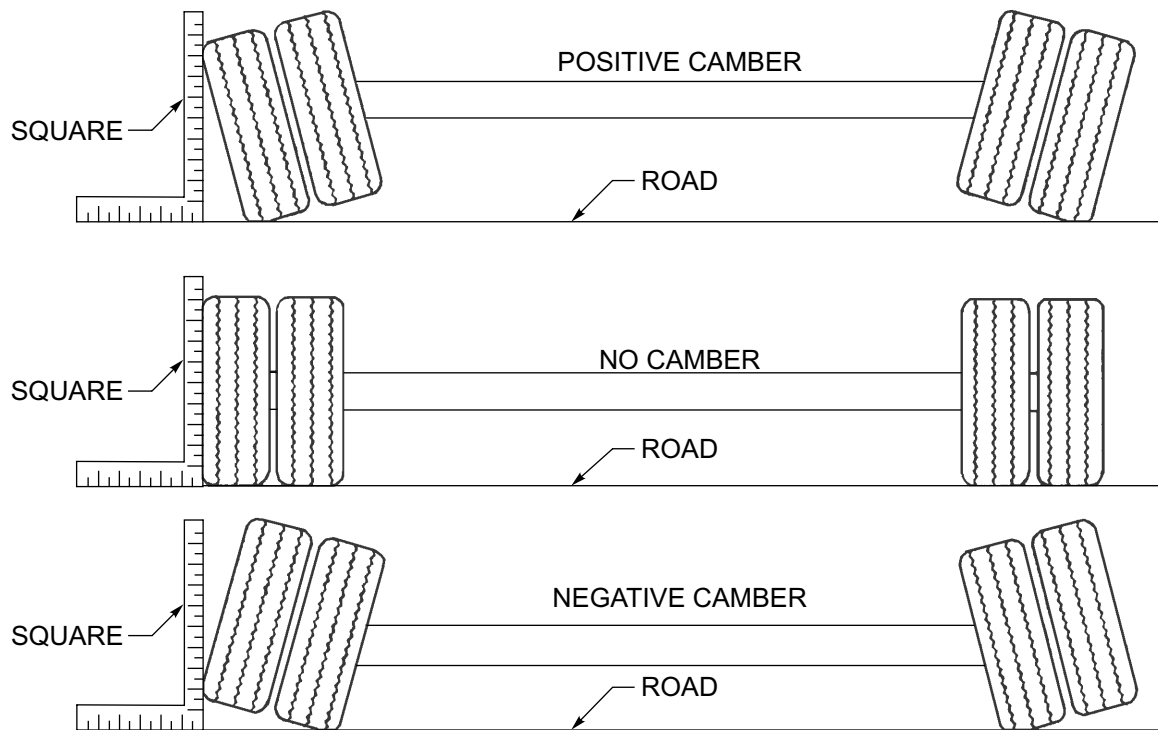

Figure 4-8: Examples of Camber
4. Follow the same procedures as in **steps 2 and 3**, except place the axle gauge above and below the axle. If gauge point gap is found, the axle has positive or negative camber. The trailer axle has no camber from the factory. If it is found to have positive or negative camber, axle replacement is necessary **See Figure 4-8** for examples of camber.